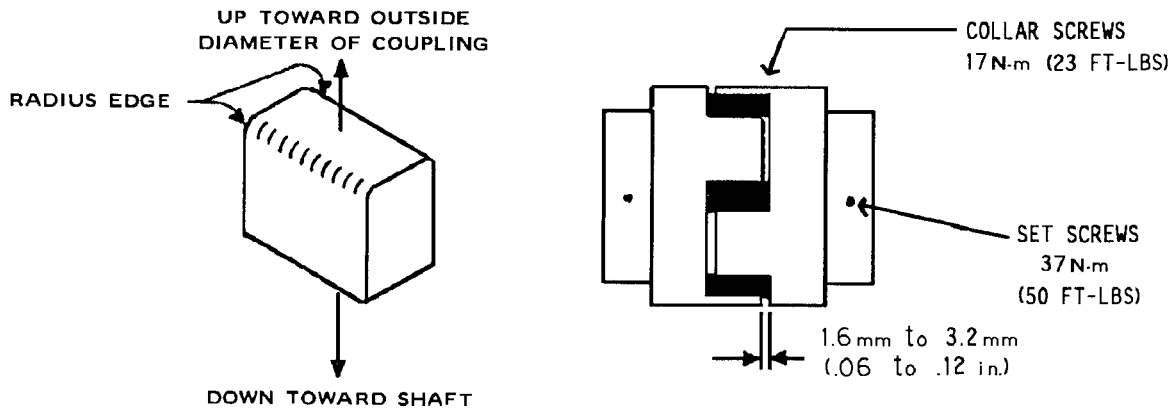

FIGURE 7-1 - INSTALLATION OF COUPLING CUSHIONS
COUPLING - The motor and compressor are direct connected by a resilient type flexible coupling with several individual cushions, Figure 7-1. Coupling does not require lubrication.
Individual Cushion Design (Figure 7-1)
3. Working through coupling guard opening, center coupling over gap between shafts, maintaining gap as shown in Figure 7-1 between the ends of the jaws on one coupling body and the flange on the opposite coupling body. Tighten set screws in each coupling body.
4. Insert individual cushions as shown in Figure 7-1 and slide collar over cushions and secure with cap screws. Reinstall the coupling guard.